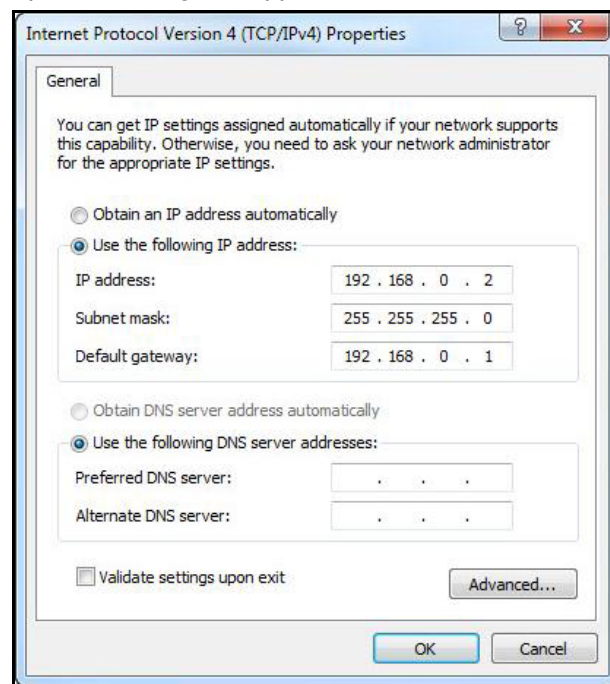

Figure 6. Internet Protocol (TCP/IP) Dialog Box
5. Select Use the following IP address. Type an IP address that is inside the range specified by the Satellite Router's IP address and subnet mask. See Figure 6.